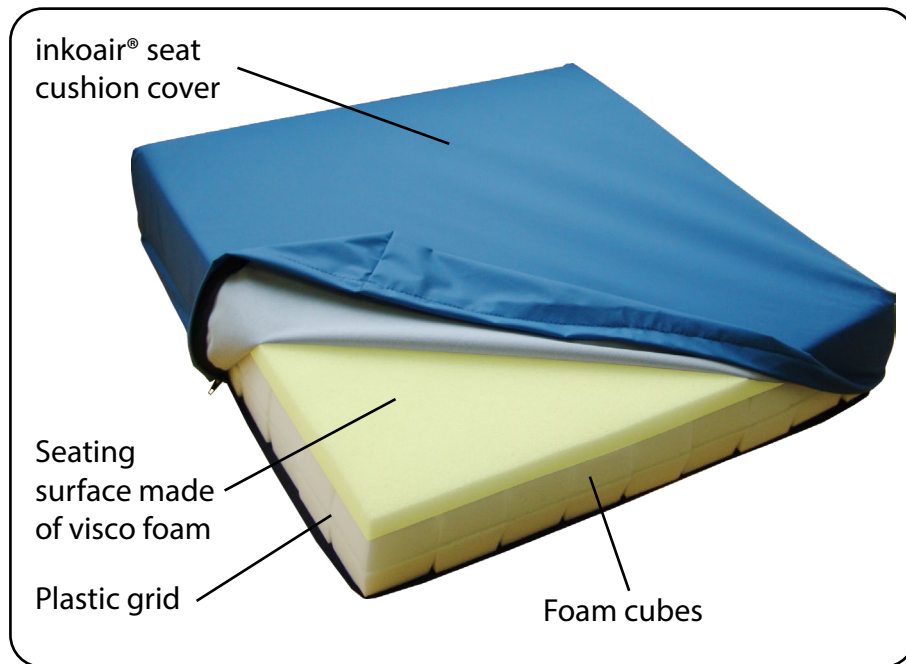
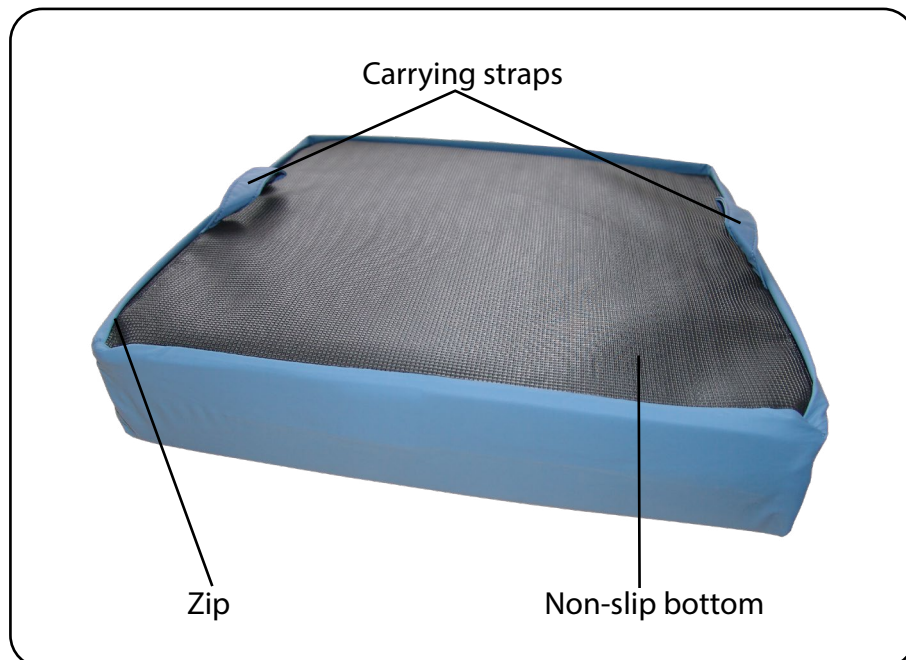
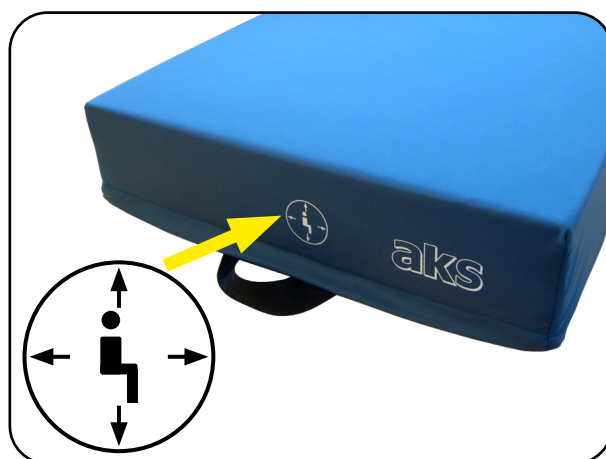

Fig. 5.01 – Top
Fig. 5.02 – Bottom
Fig. 6.01 Marking on inkoair® seat cushion cover
4. If the product is covered with an inkoair® seat cushion cover, the blue side is the top side (Fig. 5.01). The front of the seat cushion must be placed on the front of the seat and can be identified by the fact that it is the side of the seat cushion cover on which there is no zip. In addition, a symbol indicates the correct orientation of the seat cushion in relation to the patient (Fig. 6.01).
- The non-slip cover side is the bottom and must be placed on the bottom of the seat cushion (Fig. 5.02).
- The carrying straps on the seat cushion cover must lie laterally on the front of the seat cushion (Fig. 5.02 and Fig. 6.01).